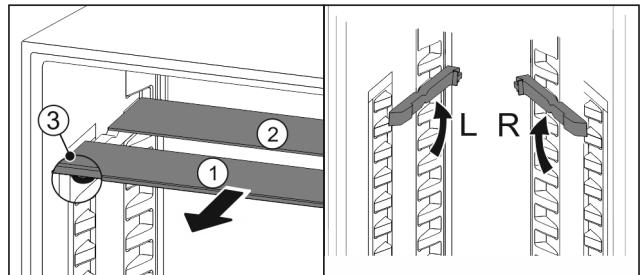

Fig. 125
- Pull the glass panels out Fig. 125 (1) from the front, one at a time.
- The glass panel Fig. 125 (1) with the trim strip is at the front.
- The stops Fig. 125 (3) point downward.